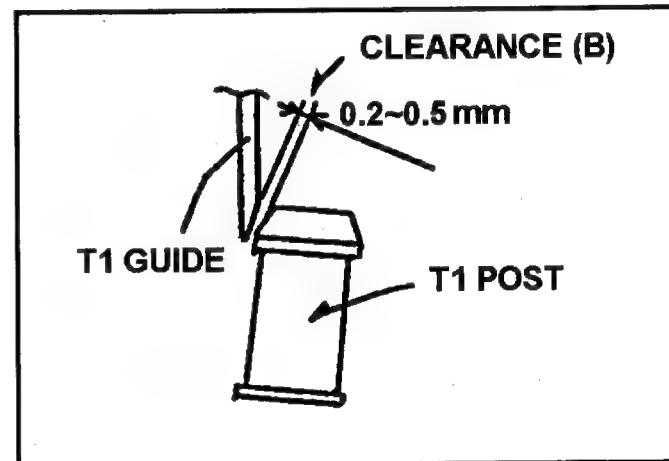

Fig. 6-1-6
1. Observe the clearance (B) between T1 Guide and T1 post as shown in Figure 6-1-6. And make sure that it is within 0.2 to 0.5mm.
2. If not, loosen the 2 screws (A) and adjust the position of T1 Guide by moving to arrow direction (G \leftrightarrow G) so that the clearance (B) is within specification. And tighten the 2 screws (A).